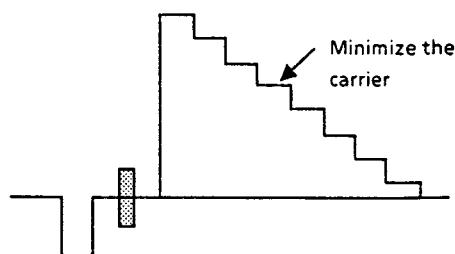

Fig. 4-4
- Adjust VR51 and VR11 so that the carrier on the waveform becomes minimum. (Fig. 4-4)